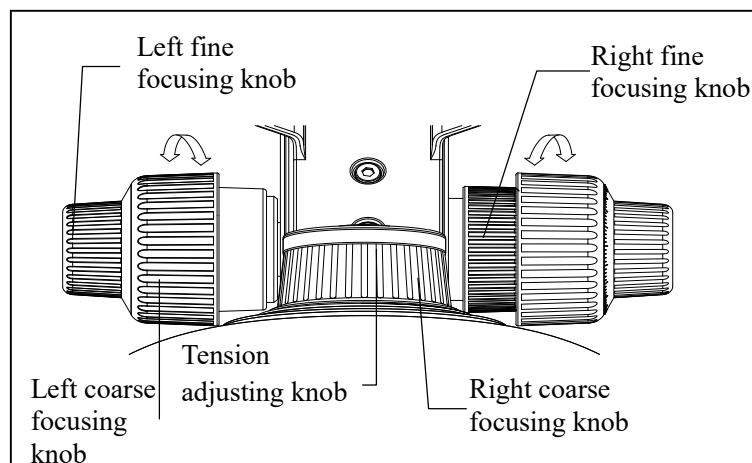

Fig. 4 Coarse & fine focusing knobs and tension adjusting knobs
3.2.5 Focusing unit (Fig.4)
3.2.6 Use of tension adjustment knob (Fig.4)